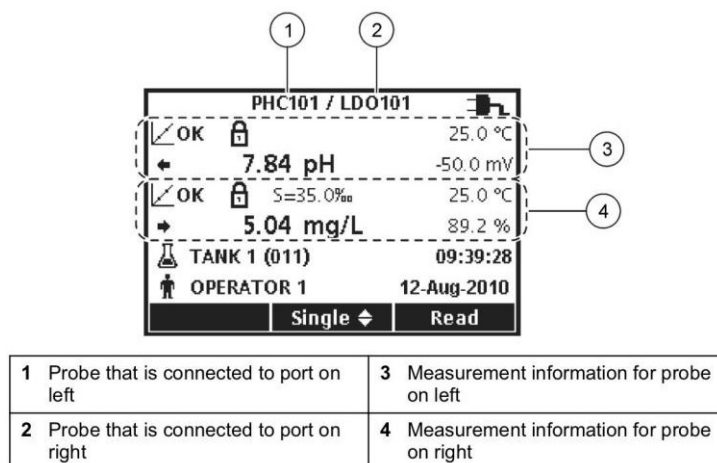

Figure 9: Hach multimeter screen with two probes connected
4. Check for the OK calibration symbol  to appear twice: on the top measurement information for the probe connected to the left port and on the bottom measurement information for the probe connected to the right port (Figure 9). Fill out Part IV - Equipment Information and Calibration on the field data sheet.